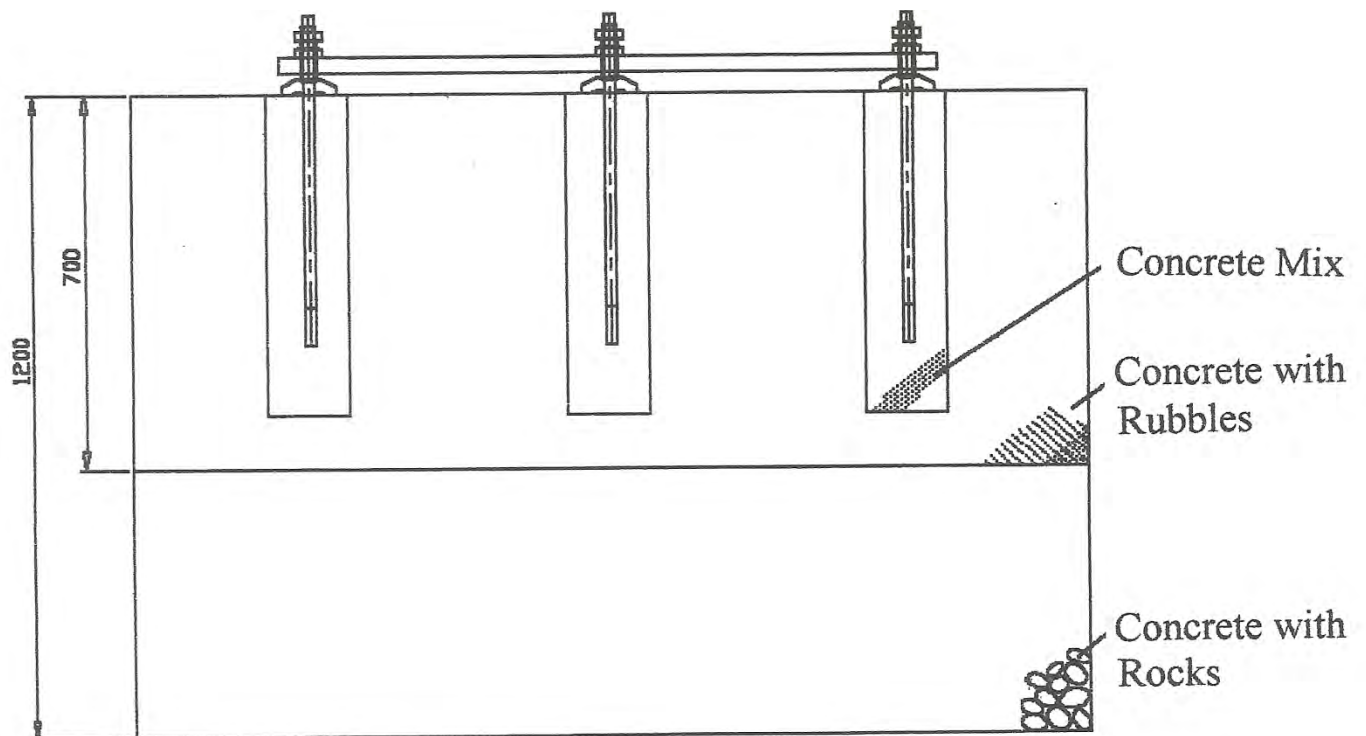

Figure 2
**Incorrect foundation will affect machine's accuracy. Only correctly done foundation will avoid machine vibration, reduce machine malfunction, and loosening level of the machine. All these factors will contribute to machine's machining accuracy. Every machine has a different control and is weighed differently. They are also designed different. Therefore they also need a different foundation. We strongly suggest customers to build the foundation according to the requirement (shown on fig. 2 & 3).**
**The method of building the foundation is as figure 2. Please build the foundation 15 days before machine arrive. The procedure is as follow:**